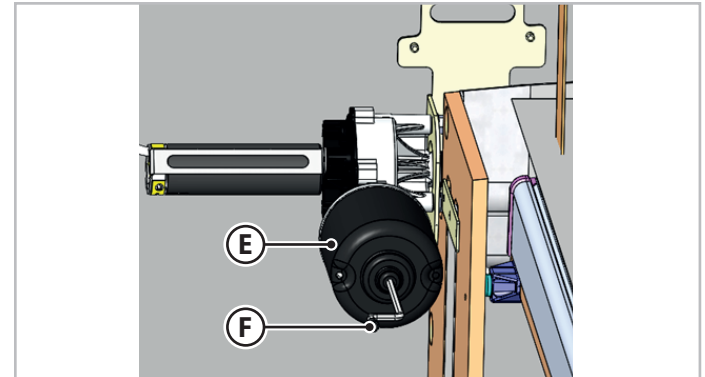

Fig.6.17 - Releasing a Type B electric bed
2. On the underside of the motor (**E** - Fig.6.17), insert the Allen wrench (**F** - Fig.6.17) into the specific seat in order to manually move the bed.